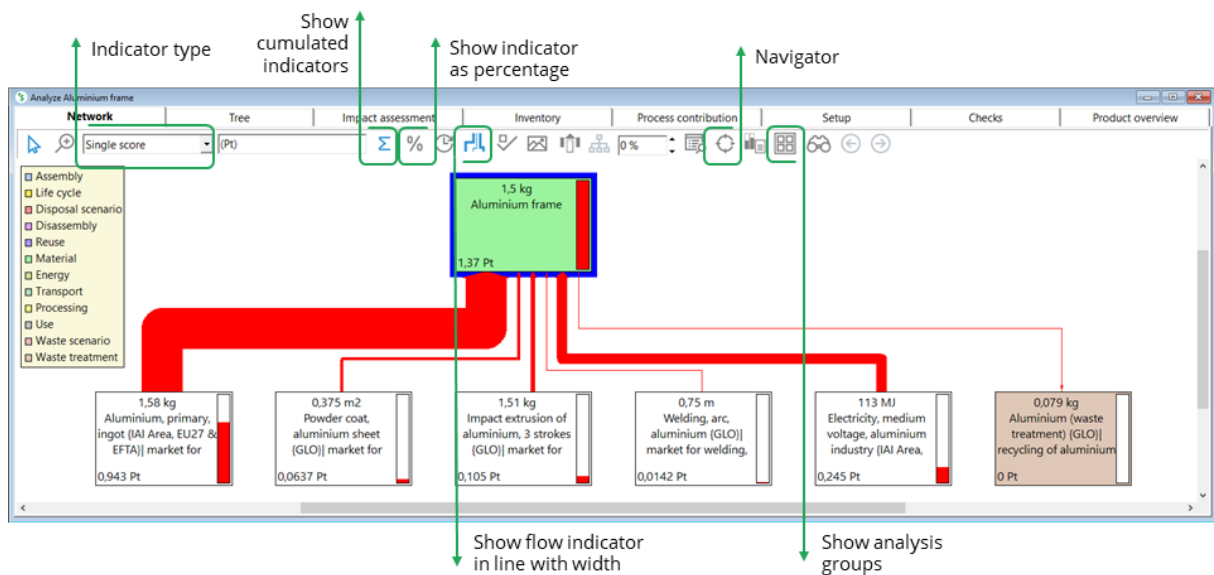

Figure 3.6 Analyze Aluminium frame, Network diagram
- Click on Calculate button at the bottom. If you did not already save this calculation setup, there is a pop-up asking if you want to save the calculation setup first. You will then see Figure 3.6.
With the node cut-off percentage (Figure 3.6) you can create a view only showing the most contributing processes in your network. Processes that contribute less to a selected indicator than the specified percentage will not be shown. If you set the cut-off percentage to zero, then you will see all processes.
Show flow indicator in line width: This option allows you to create a Sankey diagram. This means that the thickness of the flow line depends on their environmental impact (as seen in Figure 3.6). If you deselect this option, the flow lines will be represented by identical arrows throughout the network model.